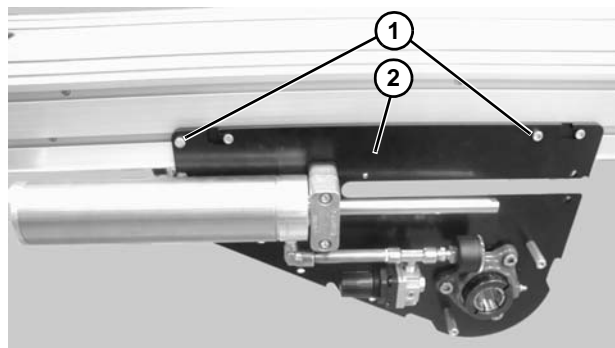

Figure 122
10. Remove screws (Figure 122, item 1) and pull side plate assembly (Figure 122, item 2) off conveyor.